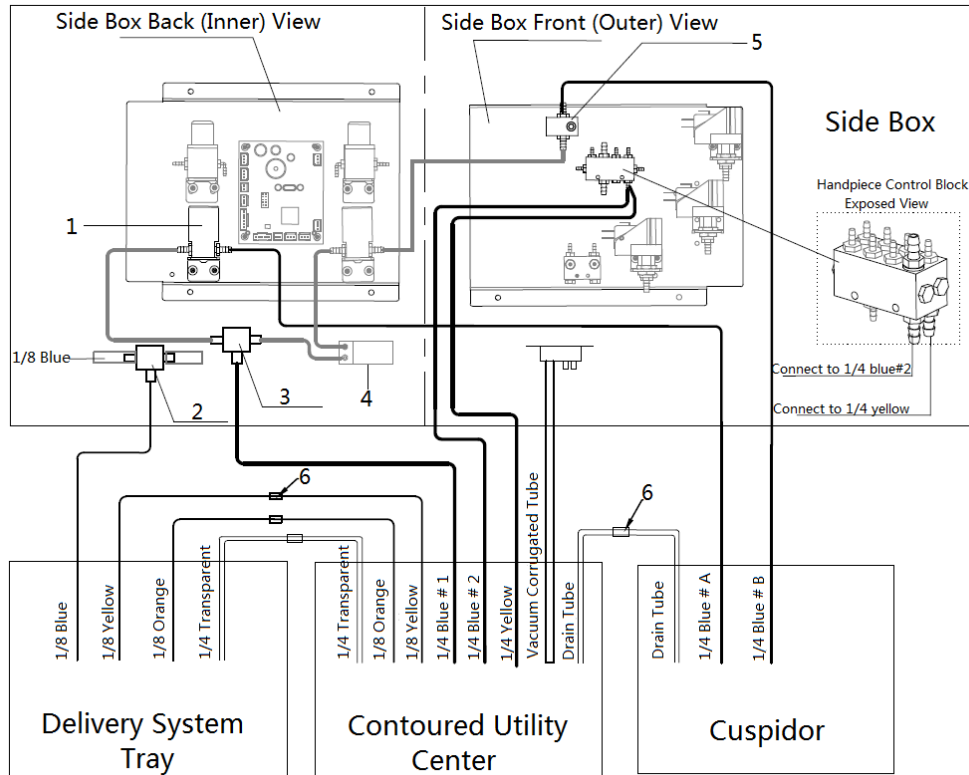

Figure 17. Dental Unit Overall Water and Air Tubing Connection Diagram
- a. 1/4 blue # 1 tube to shuttle valve B ③.
- a. 1/4 blue # A to solenoid valve ① and 1/4 blue # B to temperature sensor ⑤
6. Connect the side box tubing as shown on Figure 17.